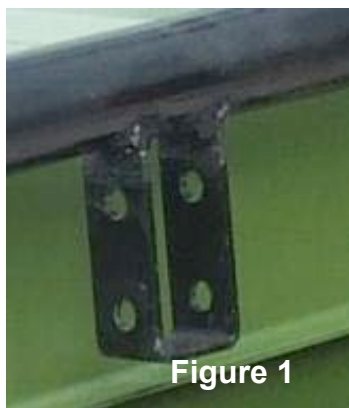

Figure 1
1. Locate the handle-mounting bracket on the generator frame. (Located on the top right side when looking at the control panel of the generator, Figure 1). Attached the handle by placing the handle around the outside of the handle-mounting bracket, and aligning the bottom set of holes. Insert a bolt (M8*50) through hole on the frame and the handle-mounting bracket, and secure with a nut (M8) and washer.